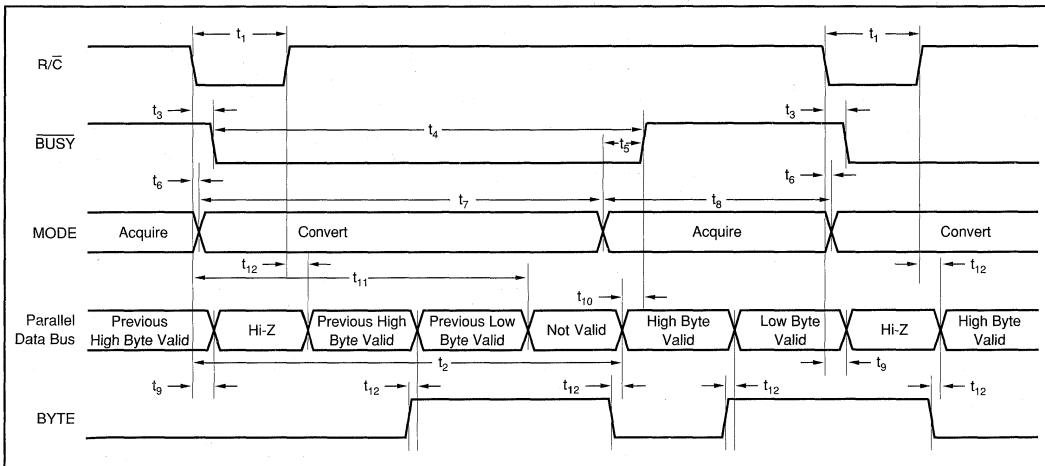

FIGURE 2. Conversion Timing with Parallel Output ($\overline{\text{CS}}$ and $\overline{\text{DATACLK}}$ tied LOW, $\overline{\text{EXT/INT}}$ tied HIGH).
The ADS7807 will begin tracking the input signal at the end of the conversion. Allowing 25 μ s between convert commands assures accurate acquisition of a new signal. Refer to Tables III and IV for a summary of \overline{CS} , R/C, and \overline{BUSY} states and Figures 2 through 6 for timing diagrams.
NOTE: (1) See Figures 2 and 3 for constraints on data valid from conversion "n-1".
After conversion 'n' is completed and the output registers have been updated, $\overline{\text{BUSY}}$ (pin 24) will go HIGH. Valid data from conversion 'n' will be available on D7-D0 (pin 9-13 and 15-17). $\overline{\text{BUSY}}$ going high can be used to latch the data. Refer to Table VI and Figures 2 and 3 for timing constraints.
After conversion 'n' has been initiated, valid data from conversion 'n-1' can be read and will be valid up to 12 μ s after the start of conversion 'n'. Do not attempt to read data from 12 μ s after the start of conversion 'n' until $\overline{\text{BUSY}}$ (pin 24) goes HIGH; this may result in reading invalid data. Refer to Table VI and Figures 2 and 3 for timing constraints.